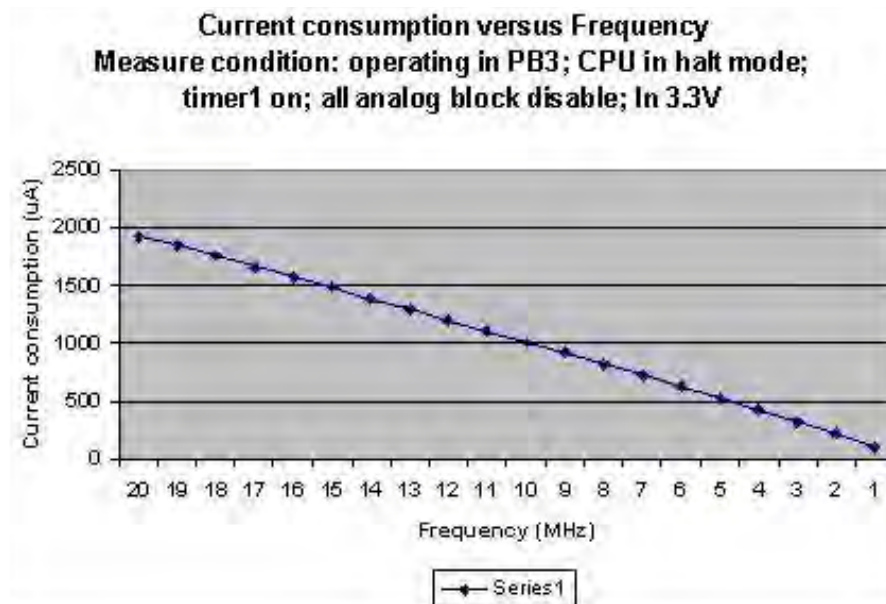
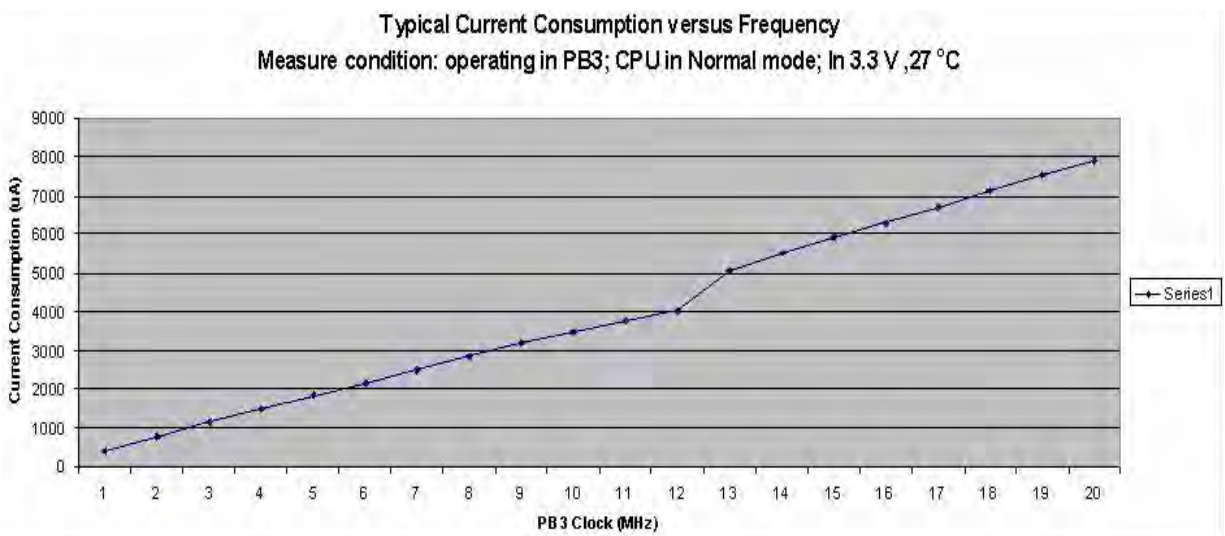

Figure 28. I_{CC} versus System Clock Frequency (HALT Mode)
Figure 29. I_{CC} versus System Clock Frequency (NORMAL Mode)
3. See Figure 28 on page 187 on page 187 for HALT Mode current and Figure 29 on page 187 for ACTIVE (Normal) Mode current. The typical values are taken from the chart at 20MHz.
Figure 28 displays the typical current consumption while operating at 25°C and 3.3 V versus the system clock frequency in HALT Mode.
Figure 29 displays the typical current consumption versus the system clock frequency in NORMAL Mode.